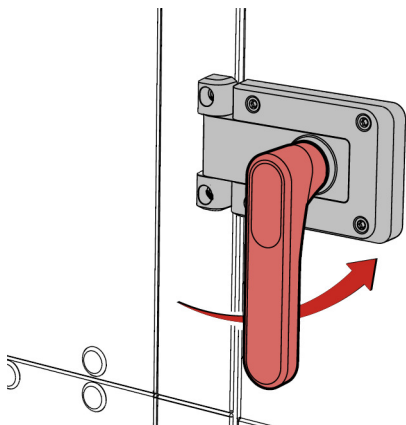

Fig. 48: Inspection access door with lock
- ▶ Turn the door handle anti-clockwise by 90° (Fig. 48).